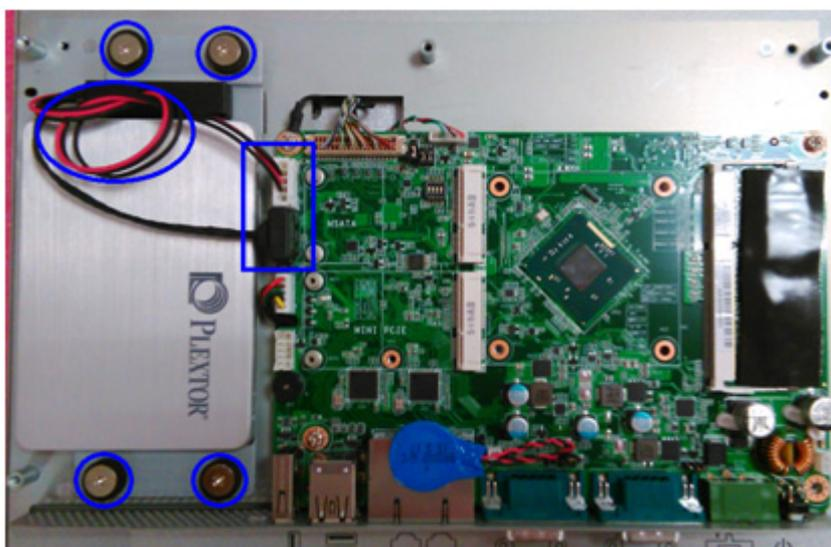

Figure 2.12 Connect SATA HDD to Mainboard
1. Locate mSATA card into the socket, push the the other end of mSATA card down and secure the mSATA module with the two retention screw in accessory box. (See Figure 2.12)